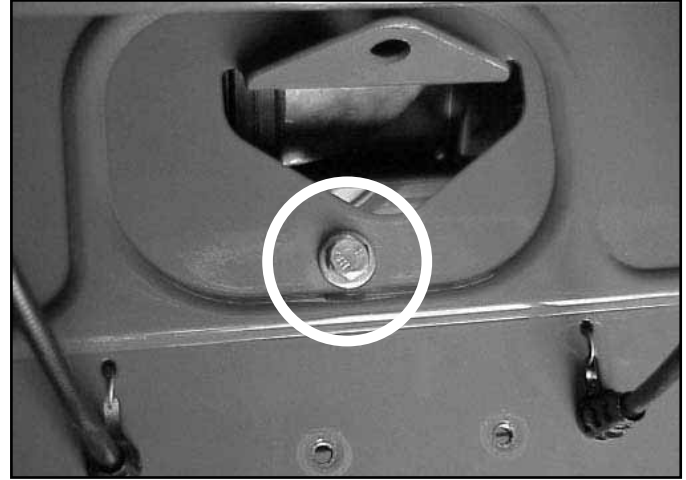

Fig 167 MVC-894XYX.jpg
19. Attach the shift brace plate to the housing (Fig. 167).